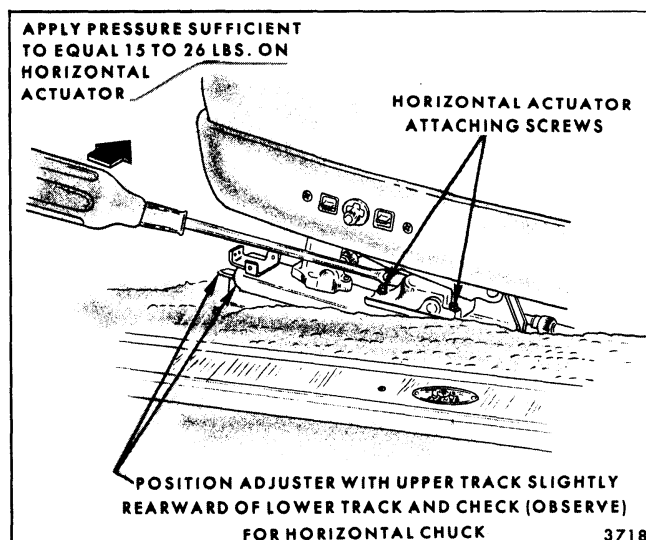

Fig. 9-3-Horizontal Actuator Adjustment - Power Six-Way Seat
2. Loosen horizontal actuator attaching screws (see Fig. 9-3). Using a large screwdriver, inserted as shown in Figure 9-3 apply outward pressure on horizontal actuator (sufficient to equal 15 to